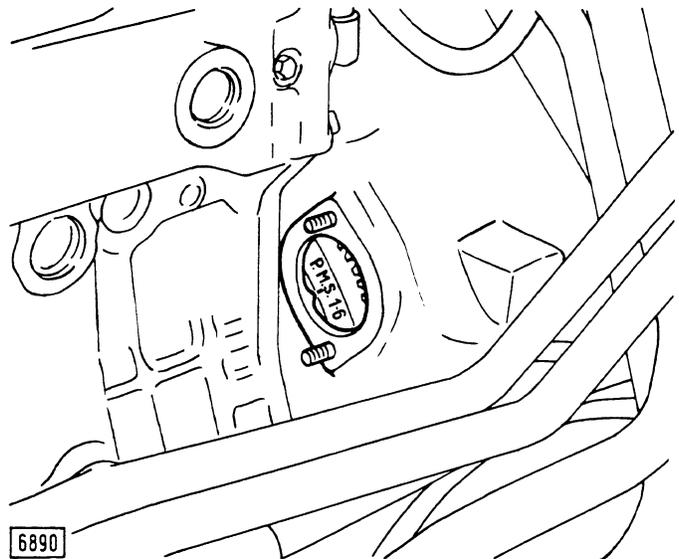

Fig. 30 - Flywheel Reference Marks Indicating T.D.C. Position of Cylinders 1 and 6
- Slacken the injectors and rotate the crankshaft until reference mark P.M.S. 1-6 (stamped on flywheel periphery) lines-up with the associated fixed timing pointer (see Fig. 30).